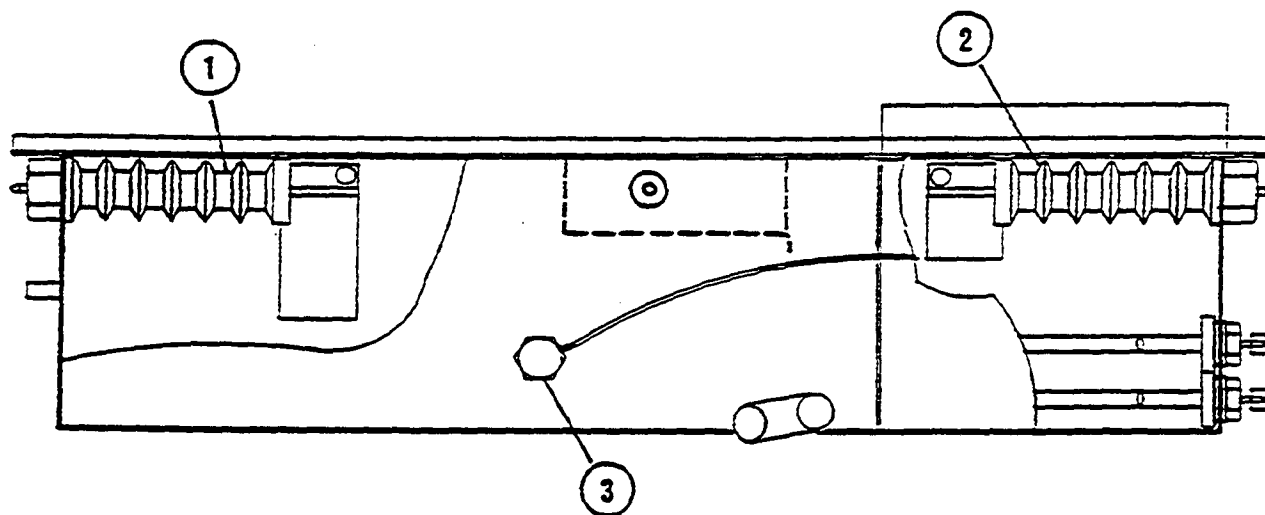

Fig. 6b LEFT SIDE VIEW - Steam Generator Assembly*
* Refer to Fig. 6b and 6c for further information.